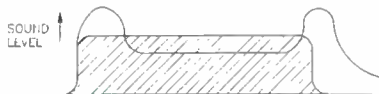

Figure 1. Absorption corrects response.
*Figure 1. The VisionWall windows are made with one-way glass. The visitors get a full view of the production, while the production teams do not see those watching them. This eliminates any distraction for cast or crew.*